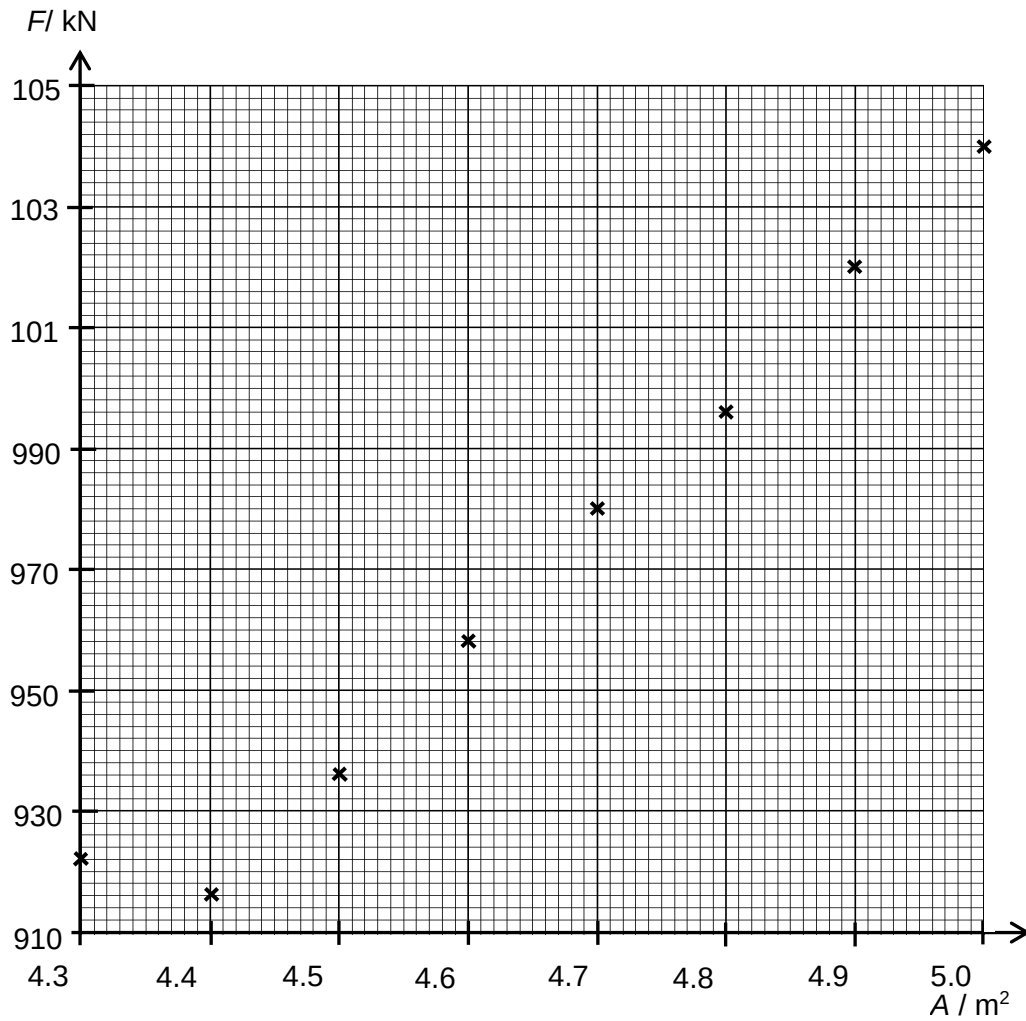

Fig. 7.4
The variation with A of F is as shown in Fig. 7.4.
- (i) Complete Fig. 7.4 by drawing the best-fit line (ignore any anomalous data).
- (ii) Use Fig. 7.4 to determine the applied stress that the ground withstands.